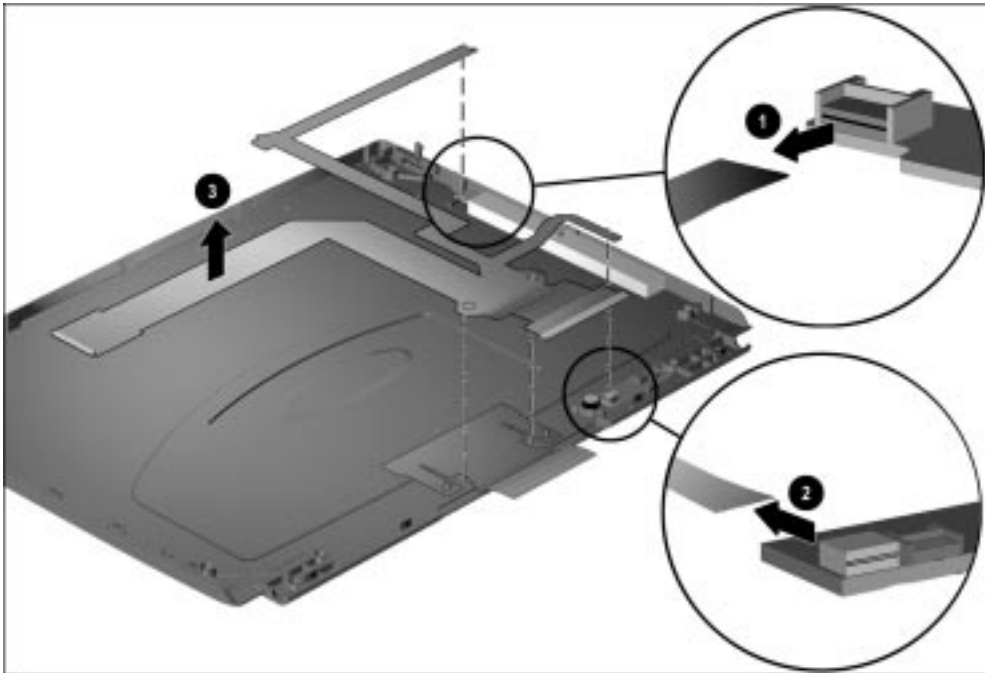

Figure 5-39. Removing the Display Cable
6. Disconnect the display cable from the inverter ❶ and microphone board ❷ (Figure 5-39).
7. Remove the display cable from the enclosure ❸.